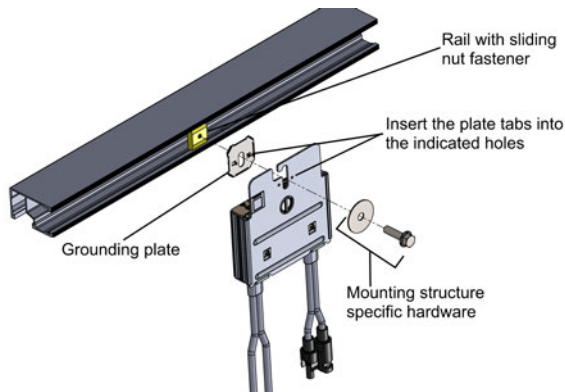

Figure 6: Power optimizer installation and grounding using a grounding plate
- **For mounting on rails with sliding nut fasteners:** If the star washer cannot be used, use the SolarEdge grounding plate (purchased separately) between the railing and the flat side of the mounting bracket. Use mounting specific hardware as needed. Apply torque of 9.5 N\*m / 7 lb\*ft. See *Figure 6*.